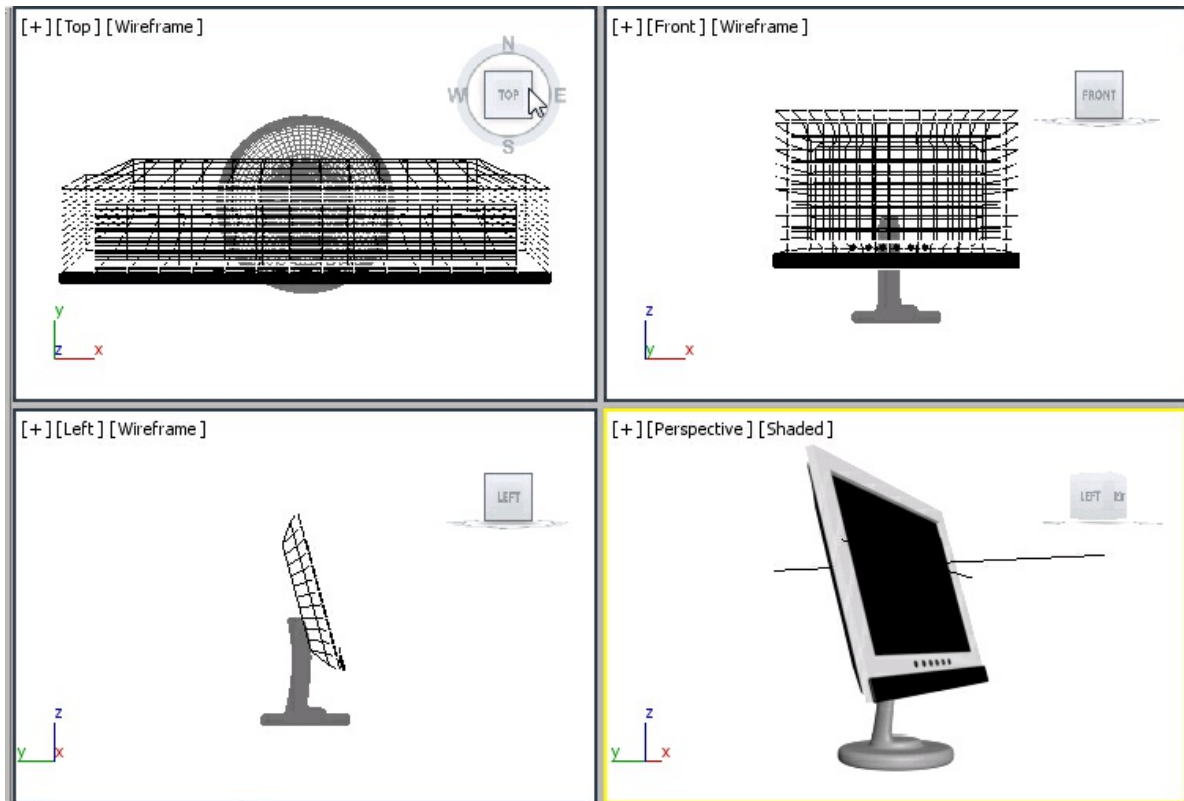

Figure 7-94 *The LCD computer in viewports*
1. Choose **Open** from the **Application** menu; the **Open File** dialog box is displayed. In this dialog box, browse to the location \Documents\c07_3dsmax_2016_tut and select the c07_tut1_start.max file in it. Choose the **Open** button to open the file, refer to Figure 7-94.